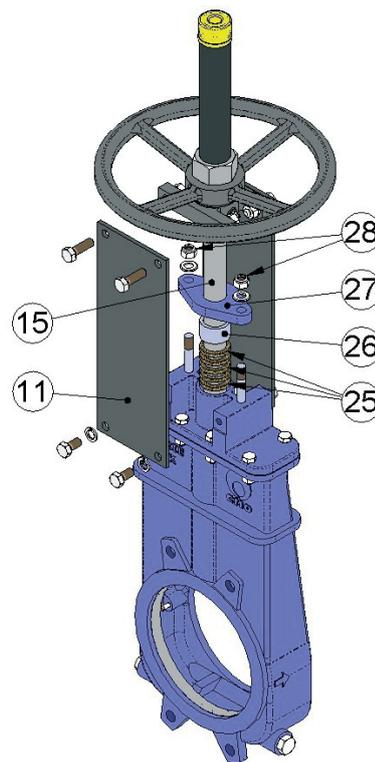

fig. 9
3. Although not essential, for more comfort and more space to work it is advisable to release a support plate (11) as shown in fig. 9.
4. Loosen the nuts (28) and lift the packing gland flange (27) and the packing gland bushing (26) over the spindle.
5. Remove the old gasket (25) using a pointed tool, taking care not to damage the surface of the spindle (15).
7. Insert the new gasket (25). During this operation it is very important for both ends of each ring to be perfectly joined. Below we show the gasket dimensions (Table 5).
8. Place the packing gland bushing (26) and packing gland flange (27) in their original position, making sure not to touch the rod (15), carefully tighten all the nuts (28) crosswise, ensuring the same distance is left between the packing flange (27) and the rod (15) on both sides, then mount the support plate (11).
Note: The numbers in brackets refer to fig. 9.